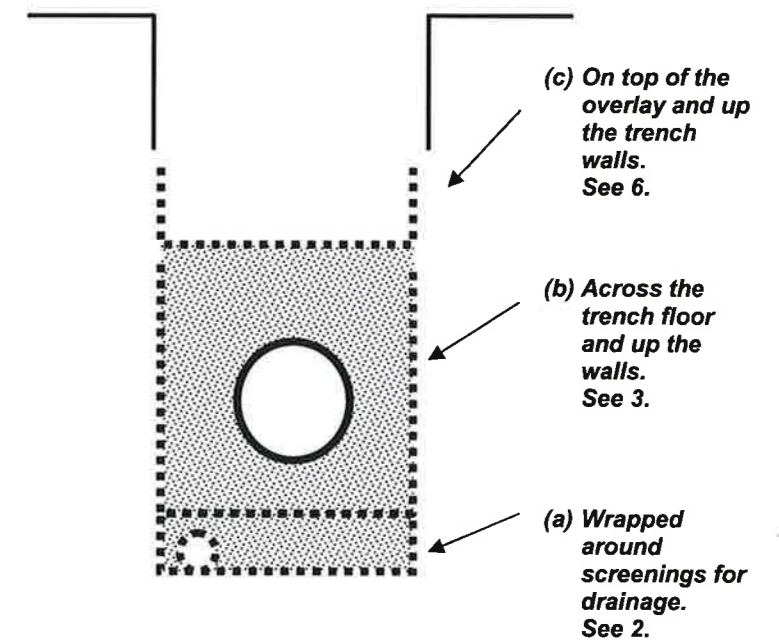

Figure 2: POSSIBLE GEOTEXTILE LOCATIONS
- Where a trench is making water slowly, a geotextile-wrapped gravel drain on the trench floor may be sufficient. If so, over-excavate the trench floor by 100 mm, place geotextile on the floor and up the sides, fill to a depth of 100 mm with screenings, wrap the geotextile over the screenings, and drain to a pump sump in the trench. Drainage to the sump may be assisted by including an agricultural drainage pipe in the screenings (Figure 2 (a)).
- If the trench floor is in soft clay soil or sand, place a layer of geotextile across the floor and up the walls to top of embedment level (Figure 2 (b)).
- Where sand is to be used as trench fill above the overlay, place a layer of geotextile over the screenings and 150 mm min up the trench walls (Fig 2 (c)).